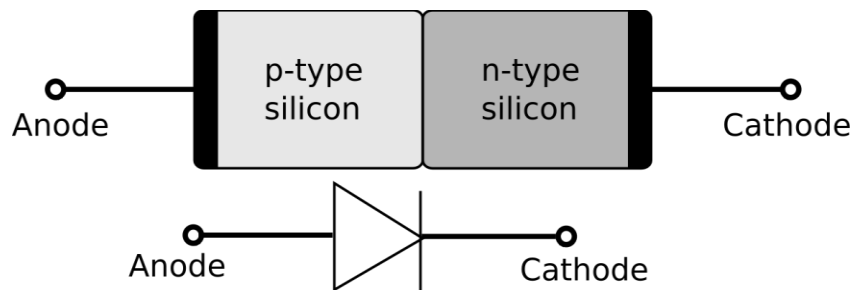

Figure1. Formation of PN Junction
- It is possible to manufacture a single piece of a semiconductor material, half of which is doped by P-type impurity and the other half by N-type impurity as shown in Figure.1